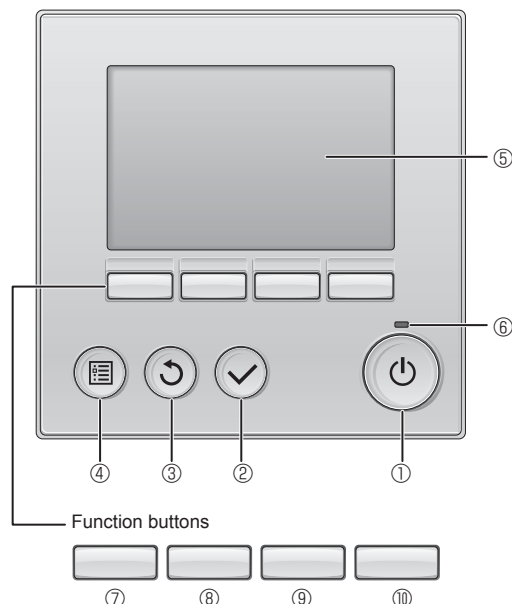

Fig. 6-1
6.2.1. Using wired remote controller (Fig. 6-1)
① [ON/OFF] button